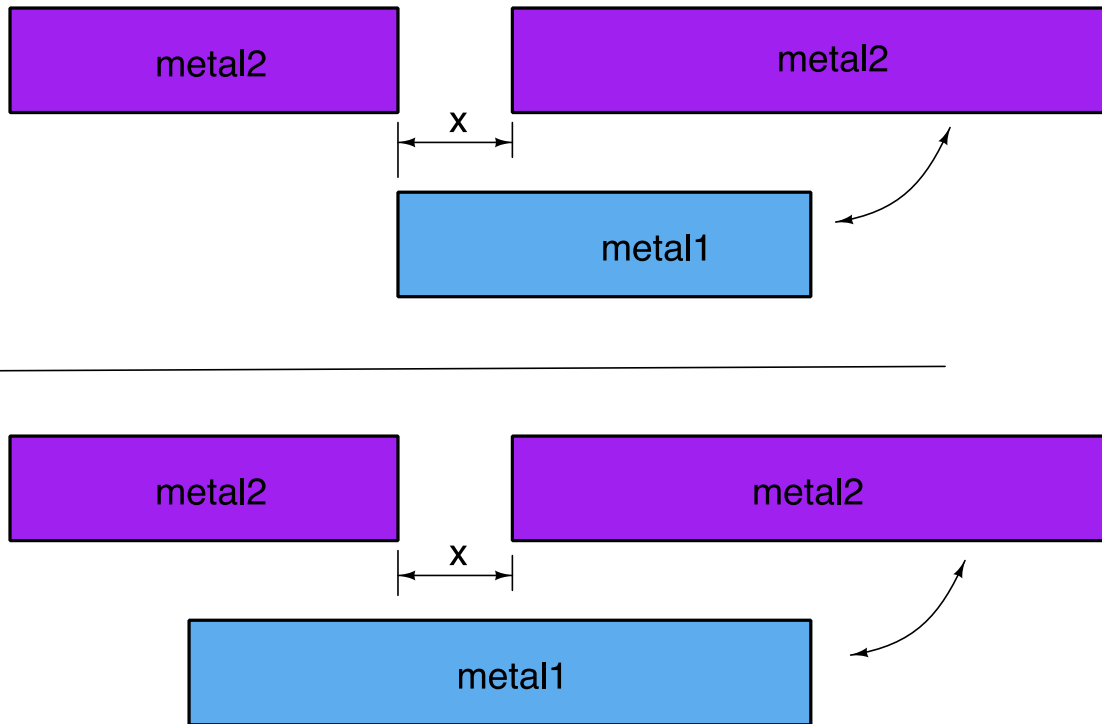

Figure 15: Lateral fringe shielding (2/2)
- will shield the fringing to the lower layers, i.e. in Figure 15 the coupling between the two shapes is the same in the above and below cases